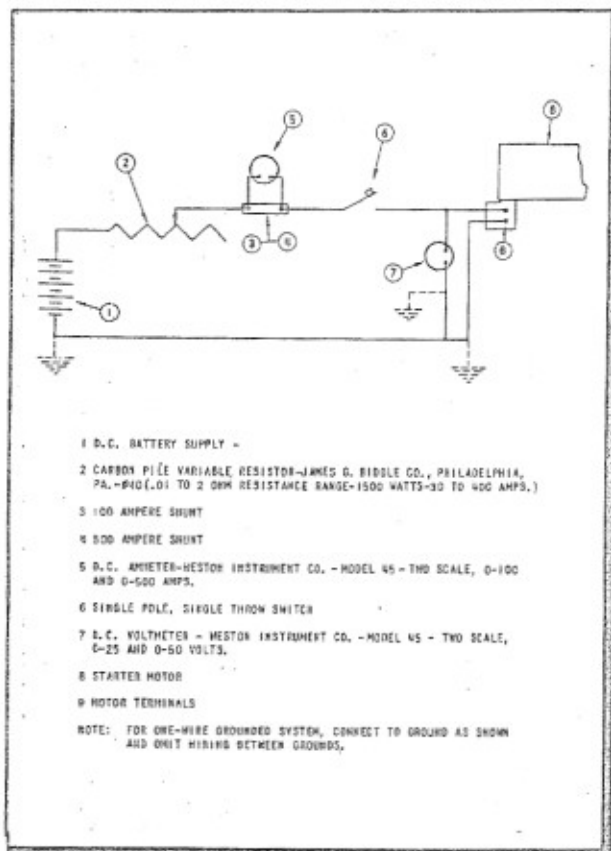
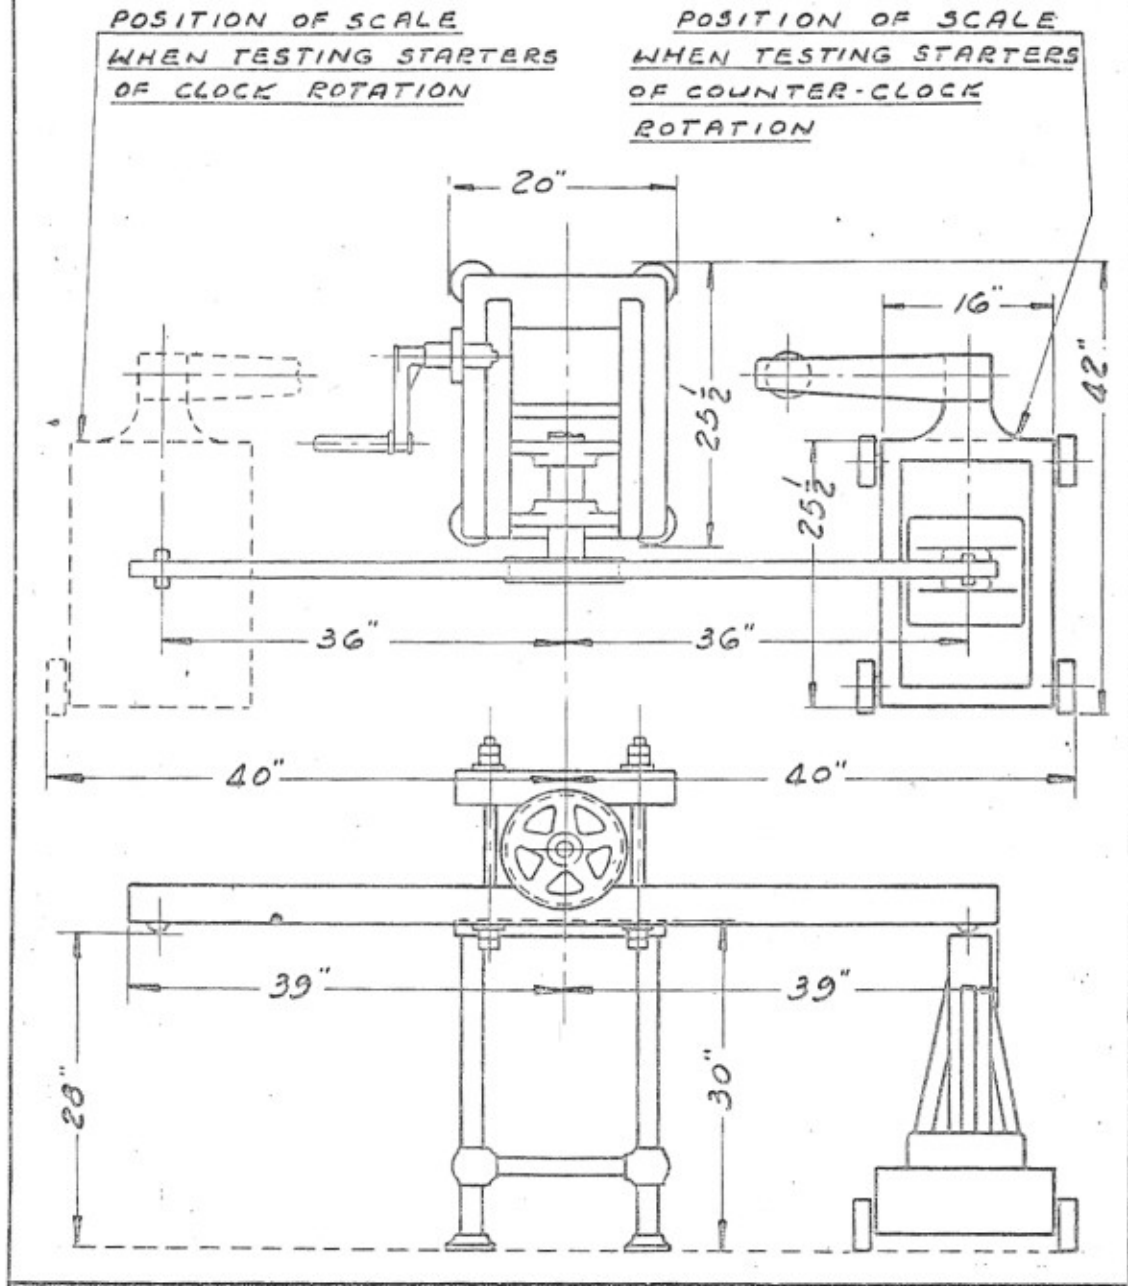

Figure 2—Electrical Test Set-Up
Figure 3—Schematic Diagram of Prony Brake Test Stand MT-327
a. ELECTRICAL CONNECTIONS.—Refer to test diagram, figure 2, and connect the d-c power supply (1), which may be either a battery or a motor generator, through the carbon stack variable resistor (2), a Weston model 45 ammeter (0-100) scale using a 100-ampere shunt, and a single pole single throw switch (6), from which a lead is connected to one of the starter terminals. Connect a Weston model 45 voltmeter across the motor terminals as shown.
a. **GENERAL.**—In order to check or adjust starter clutches and to test the units for proper operation after reassembly, a Prony brake test stand (MT-327) with a platform scale is required as shown in the schematic diagram, figure 3. With the baffle plate removed, mount the starter on test stand and adjust mounting bracket of stand so that the distance between the starter jaw and the test stand jaw is $\frac{3}{32}$ inch when starter jaw is retracted fully. Removal of baffle plate necessitates manual engagement of starter jaw. When adjusting starter clutch, as outlined below, care should be taken to gradually attain the required setting **WITHOUT OVERHEATING.**
Connect the starter motor as instructed under paragraph 11., this section (figure 2), and assemble unit on Prony brake test stand. (See figure 3.) Using the 500-ampere shunt on the ammeter, proceed as follows: